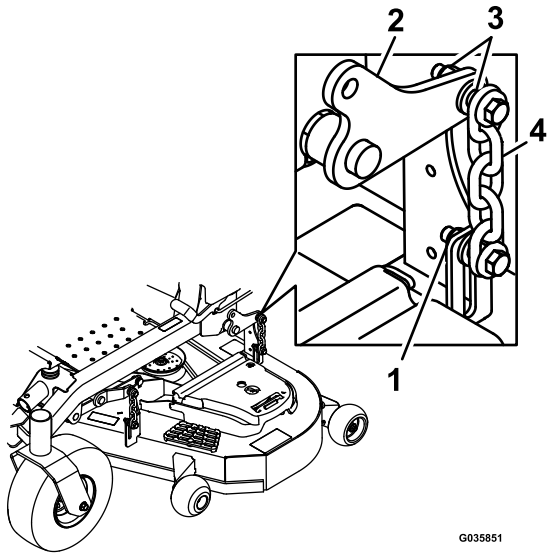

Figure 85
- 15. Loosen the locknuts (Figure 85) on all 4 corners and ensure that the mower deck is sitting securely on all 4 blocks.